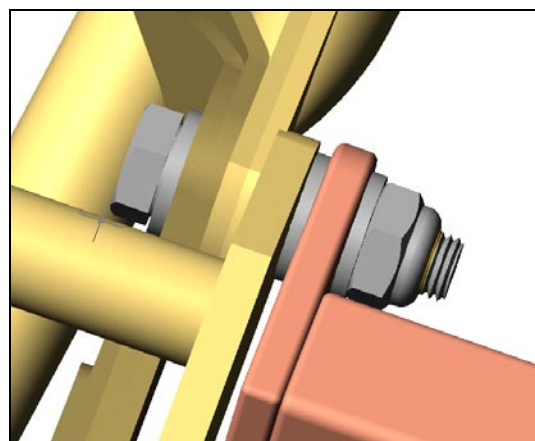

Figure 22
- b. Install Center Shock Mount hardware as shown. Do not fully tighten at this time. Figure 22